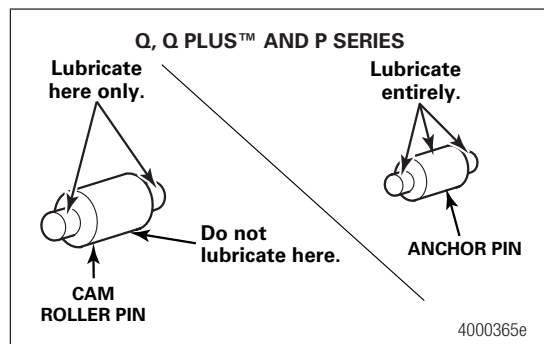

Figure 5.17
1. Use Meritor specification O-617-A or O-617-B grease to lubricate the brake shoe roller pin and anchor pin. Figure 5.17.
1. Lubricate the camshaft roller pin and anchor pin with Meritor specification O-617-A or O-617-B grease. Figure 5.17.